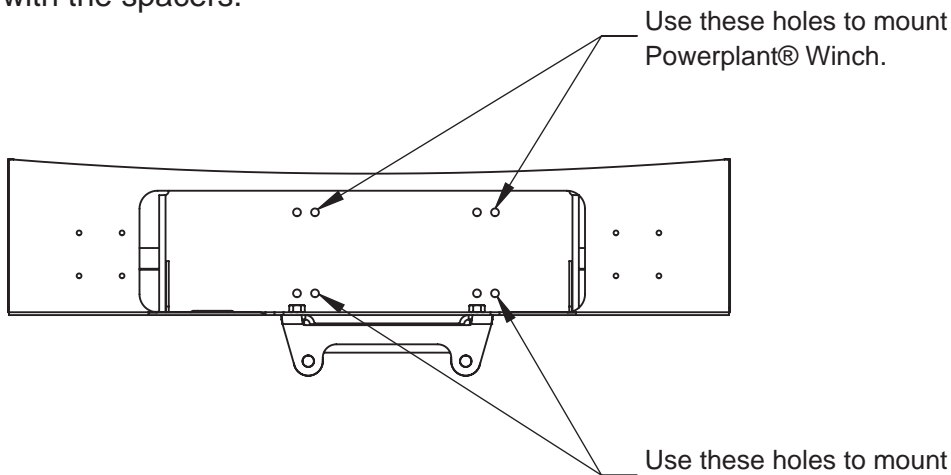

Figure 2a
2. Prepare Winch and vehicle for installation as specified in winch installation instructions. Align holes in bumper as shown below (Figure 2a) with Spacers and winch mounting holes (Figure 2b). It may be helpful to thread winch cable through fairlead before bolting it in place. Install winch as instructed by winch manufacturer, but substitute standard bolts supplied with the winch for longer bolts supplied with the spacers.